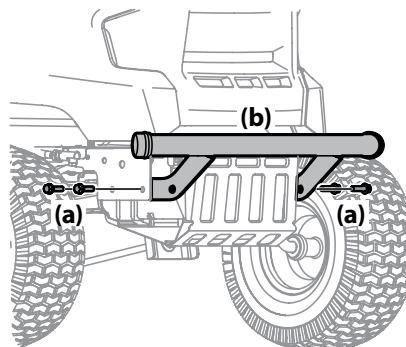

Figure 2-16
2. Position the bumper brackets to the *inside* of the tractor's frame and secure it in place with the four hex flange screws (a). See Figure 2-16.